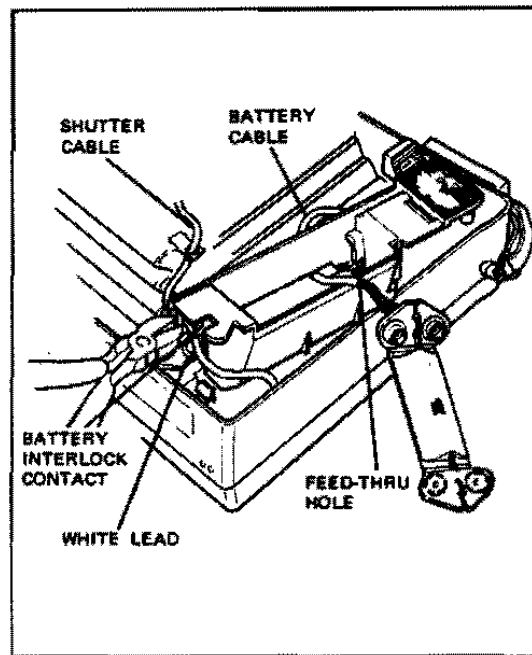

FIG. 4-31 CUTTING THE BATTERY COMPARTMENT
- f. Cut the white lead (at the eyelet) running to the battery interlock contact (Figure 4-31).
- g. Release the shutter cable and battery cable from the battery compartment feed-thru holes by carefully snipping the plastic using cutters (see Figure 4-31). Slide the battery cradle through the opening in the battery compartment and remove the battery compartment.
- a. Carefully snip away the plastic from the cable feed-thru holes in the new battery compartment so that the cables can be inserted (see Figure 4-31).